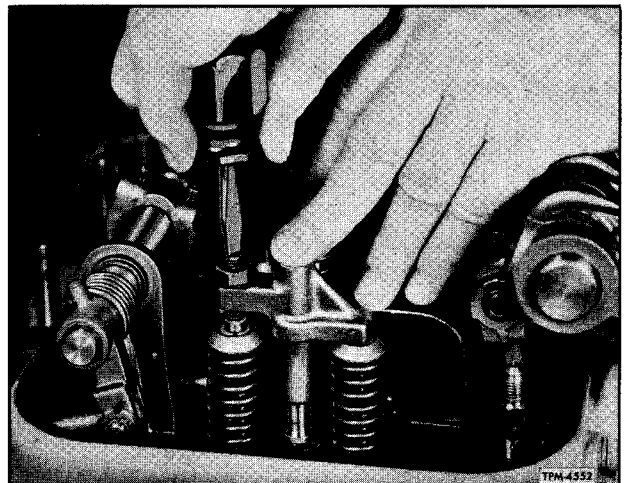

Figure 1—Adjusting Valve Bridge (71 Series)
5. Press straight down on the pallet surface of bridge (fig. 1). Turn adjusting screw until it just touches the valve stem, then turn screw an additional 1/8 to 1/4 turn and tighten lock nut finger tight.